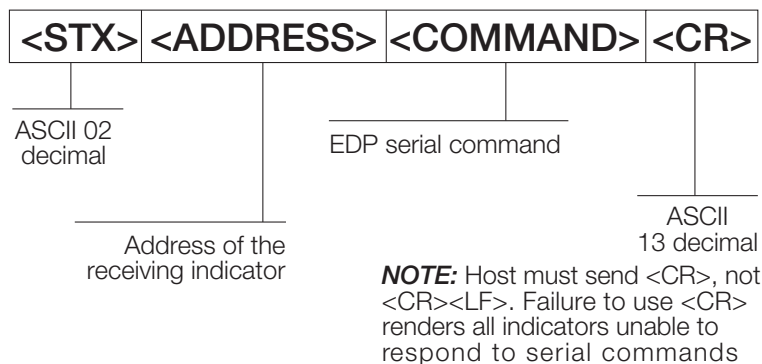

Figure 12-2. RS-485 Send Data Format
All remote commands are initiated using the data format (Figure 12-2).
*Example: To send the KPRINT command from an ASCII terminal to an indicator at address 65 (decimal) on the RS-485 network (Figure 12-2 on page 120).*
- The indicator address (65) is represented by an upper case "A"
- The carriage return (CR) character is generated by pressing the **Enter** key